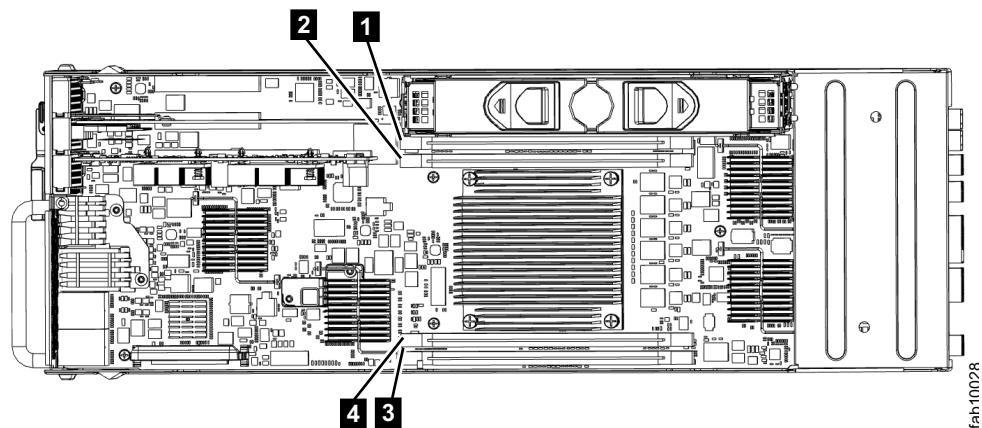

Figure 116. Installing a Storwize V7000 2076-524 node canister memory module
3. Locate the DIMM slot with the faulty DIMM. Slot 1 is next to the battery area. Slot 2 is next to the processor. The slots are marked 1, 2, 4, 3 as shown in Figure 116.
7. Gently place the DIMM in the slot, ensuring that the notches in the DIMM align with the shape of the slot, as shown in Figure 116.